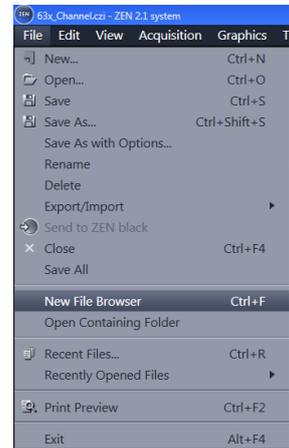

Fig.39 File Menu
- ① Advanced data browsing is available through the **New File Browser** (Ctrl + F or from the File Menu). (Fig. 39)。